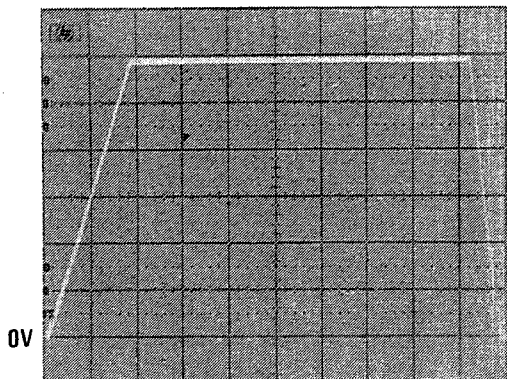

Figure 4-48
36. With the Pulse Generator level set as in Step 35, adjust the Pulse Generator controls to obtain the waveform shown in Figure 4-48, displayed on the Oscilloscope.